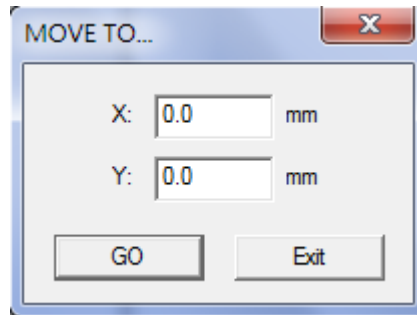

Fig. 1.7.29
1. Click “MOVE TO...” button and then input the X and Y values in the dialog box like Fig.1.7.29 and click “GO,” the XY Table will move to that specific position. The moving speed can be adjusted from “Speed” parameter.